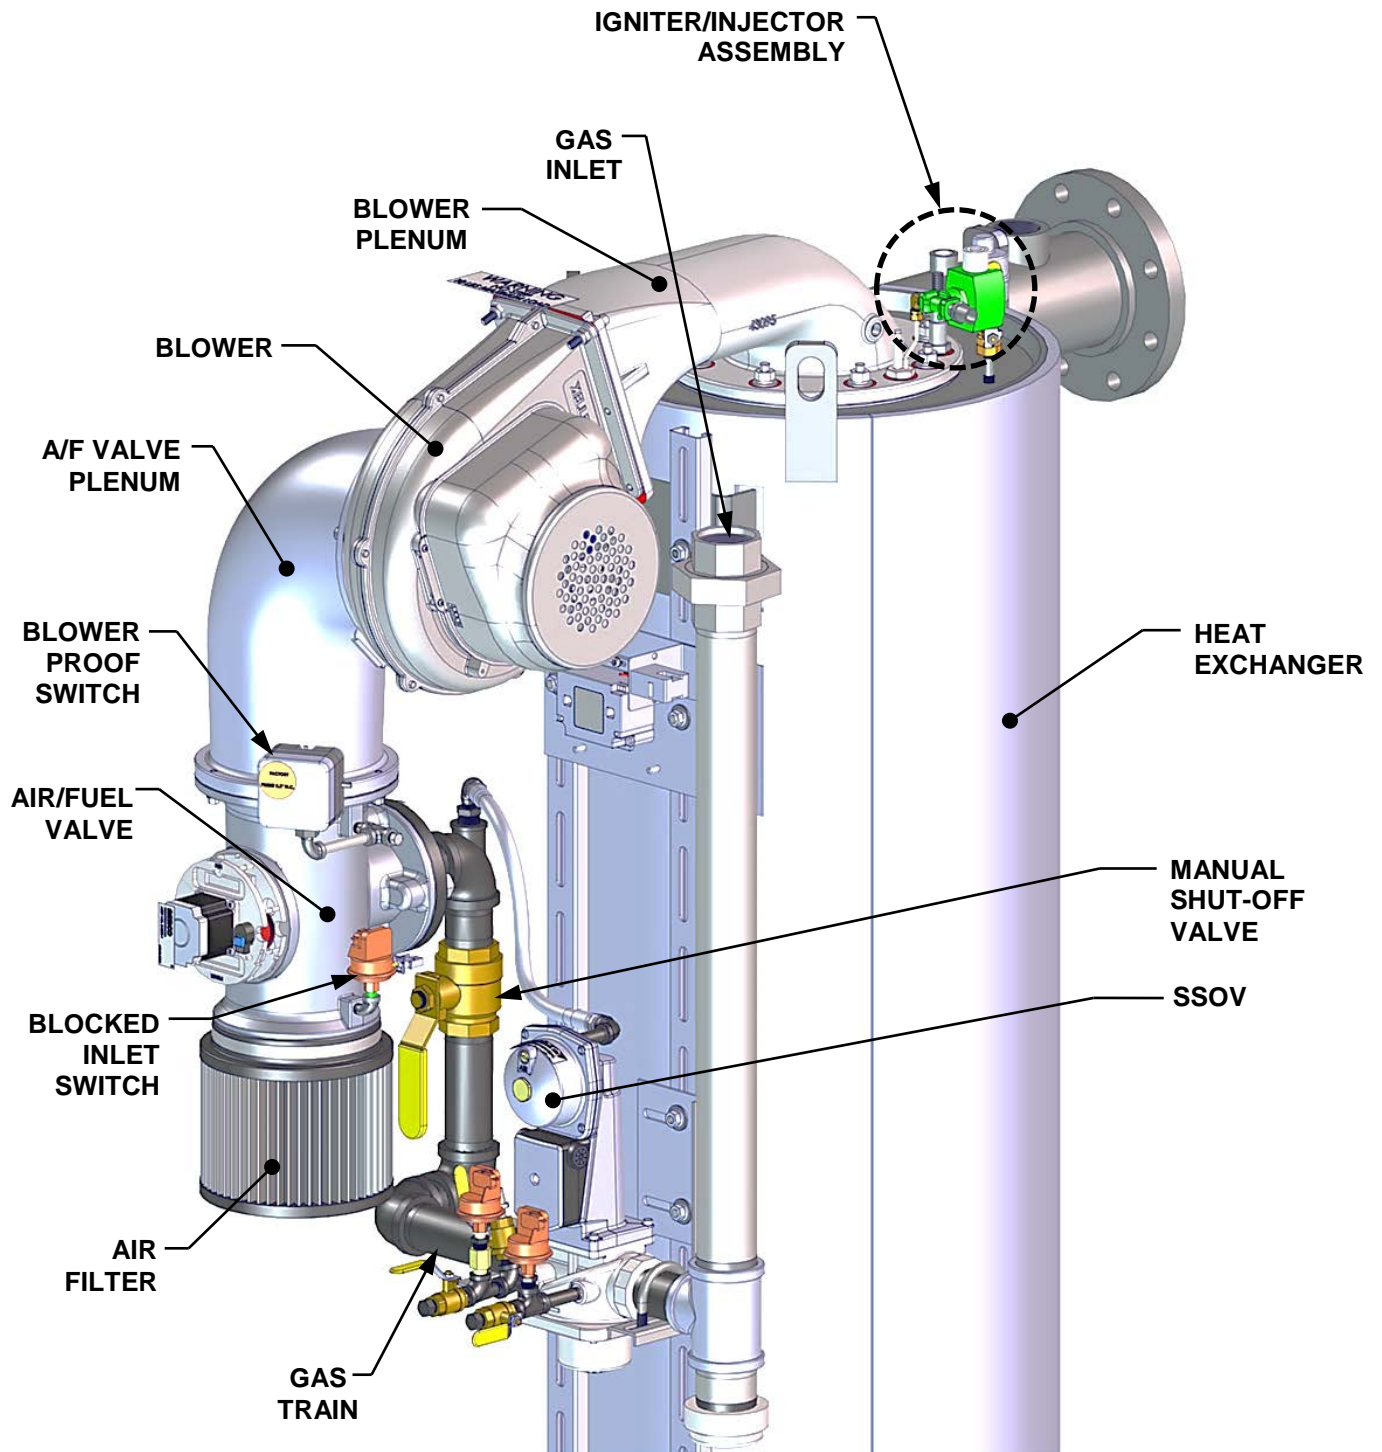

Figure 6-3: Bare Boiler – Partial View (BMK 1500/2000)
3. Close the manual gas shutoff valve located between the Safety Shut-Off Valve (SSOV) and the Air/Fuel Valve (see Figure 6-3).
8. Once flame is proven, close the manual gas valve located between the SSOV (Figure 6-3) and the Air/Fuel Valve.
These tests check the operation of the Blower Proof Switch and Blocked Inlet Switch shown in Figure 6-3.